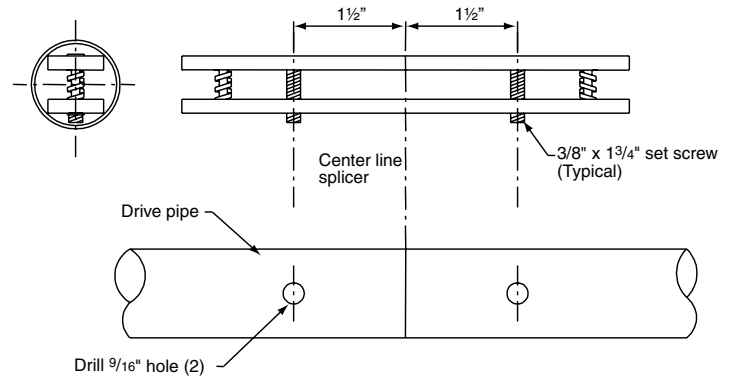

Figure 2
- ⑤ Using project specific drawings, identify the 2-3/8" drive tube sections that attach to the winch. Attach tube to winch output shafts using supplied couplers, key stock and set screws. **ATTENTION Always insert the key stock into the slot on the motor shaft, first then slide the coupler onto the motor shaft. DO NOT INSERT KEY STOCK IN COUPLER FIRST. Tighten coupler set screw securely making sure it hits the key stock.**
- ⑥ Raise the other drive pipe sections as indicated on project drawings. (Once the drive pipe is resting in the drive pipe support assemblies, slide the proper number of cable guide sleeves onto the pipe.)
- ⑦ Attach pipes together with drive pipe splicers to obtain one long continuous run of drive (See Fig. 2).
- ⑧ Operate the winch to determine that the drive pipe is rolling level. Make adjustments accordingly.
- ⑨ Slide the cable guide sleeves into their approximate location, which should correspond to the grommet spacings in the curtain.
- ⑩ Attach the wire rope cable to the cable guide sleeves and wrap cable around the drive pipe at least three revolutions in the same direction. Drop the loose end of the cable to the floor.